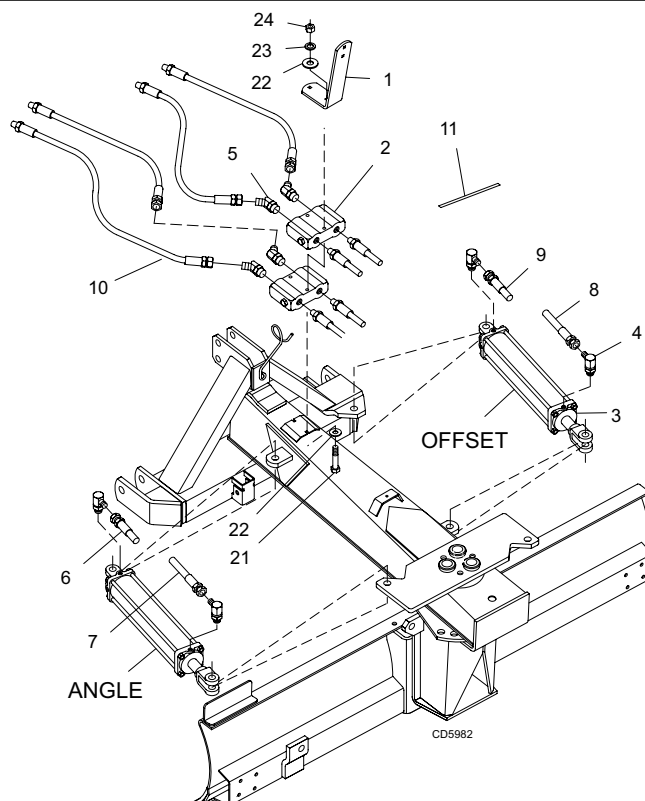
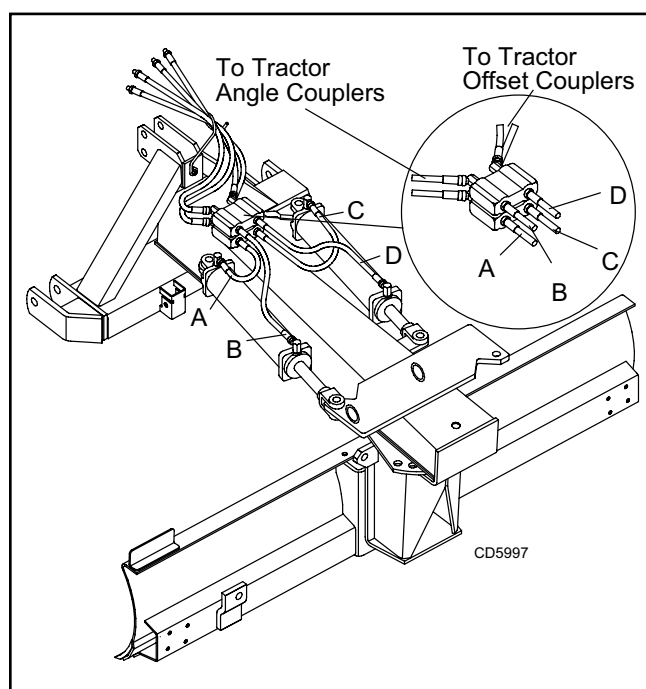

Figure 20. Offset Kit Installation
Figure 21. Hose Connection
Refer to Figure 20.
2. Attach hydraulic cylinder (3) between A-Frame and boom as shown in Figure 20. Secure with pins supplied with the cylinder.
3. Install adjustable elbows (4) to cylinder (3).
4. Remove bracket (1) and hardware if previously installed.
5. Install 45-degree elbows (5) into relief valves (2). Position elbows outward as shown.
6. Attach both valve blocks (2) and bracket (1) to boom using two cap screws (21), four flat washers (22), two lock washers (23), and hex nuts (24).
7. Attach hoses (10) to elbows (5) as shown.
8. Attach hoses (8 & 9) to back side of relief valves (2) and offset cylinder (3) as shown in Figure 21.
9. Attach hoses (6 & 7) to back of relief valves (2) and angle cylinder as shown in Figure 21.